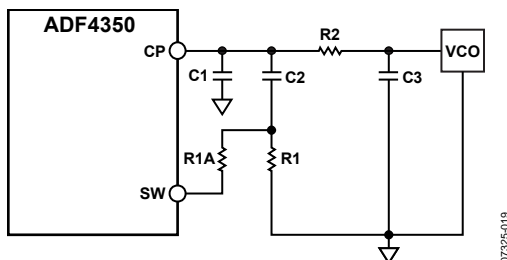

Figure 32. Fast-Lock Loop Filter Topology—Topology 2
- An extra resistor (R1A) is connected directly from SW, as shown in Figure 32. The extra resistor is calculated such that the parallel combination of an extra resistor and the damping resistor (R1) is reduced to ¼ of the original value of R1 (see Figure 32).